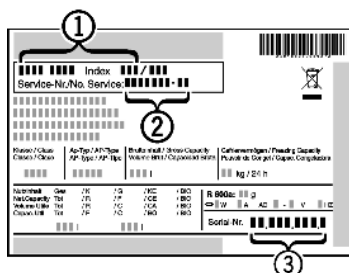

Fig. 36
- ▶ Read the appliance designation *Fig. 36 (1)*, service No. *Fig. 36 (2)* and serial No. *Fig. 36 (3)* off the type plate located inside the appliance on the left-hand side.
- ▶ Notify the customer service, specifying the fault, appliance designation *Fig. 36 (1)*, service No. *Fig. 36 (2)* and serial No. *Fig. 36 (3)*.